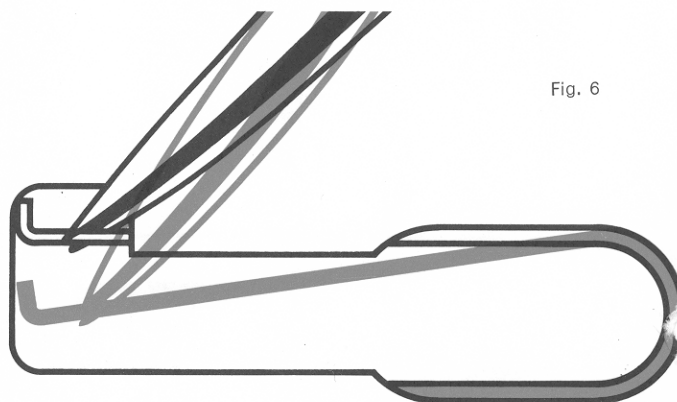

Fig. 6
- 2.2.1. Remove the date-jumper spring No. 2575 (fig. 6).